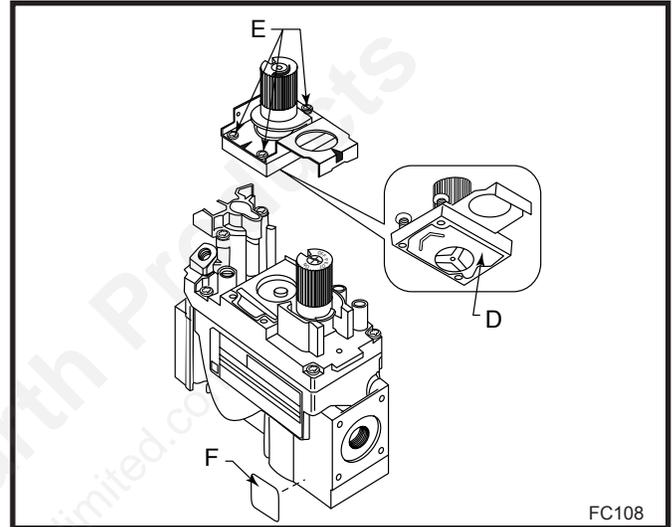

Fig. 65 Replace regulator.
2. Insure the rubber gasket (D) is properly positioned and install the new HI/LO pressure regulator assembly to the valve using the new screws (E) supplied with the kit. Tighten the screws securely. (Ref. torque = 25 in/lb) (Fig. 65)
3. Install the enclosed conversion label (F) to the valve body where it can easily be seen. (Fig. 65)